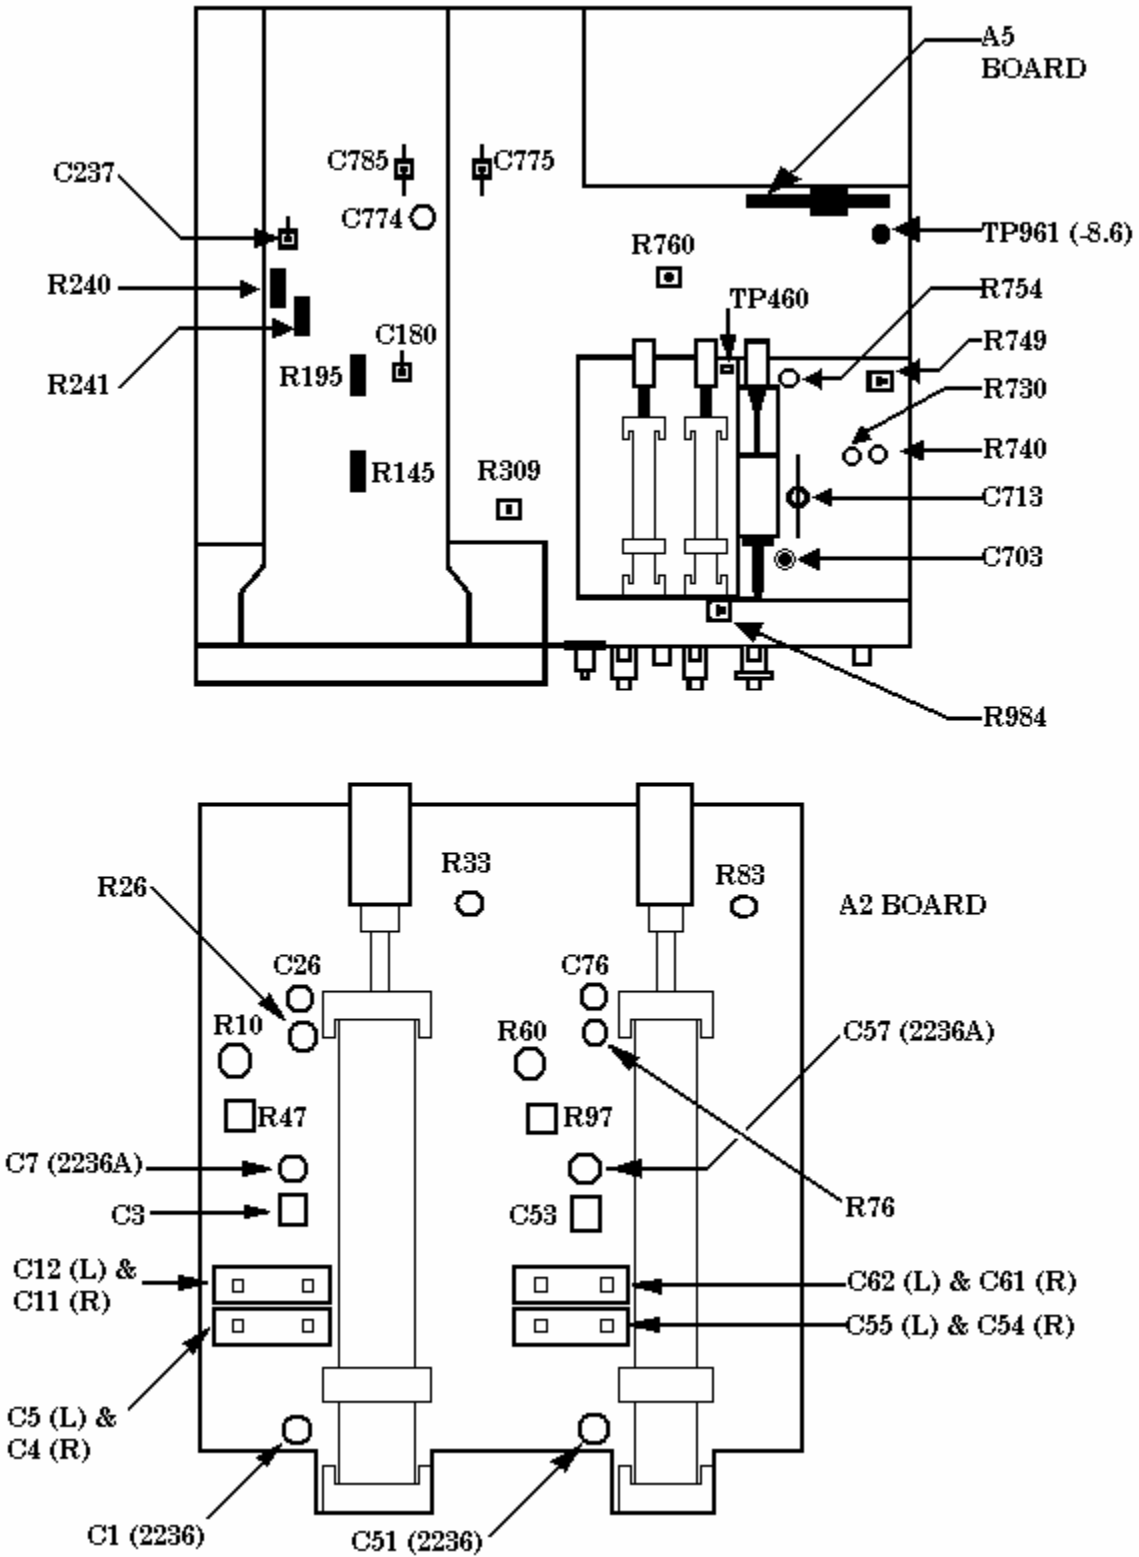

Figure 1. Adjustment locations – top view.
- (1) Disconnect equipment setup.
- (2) Set **CH 1 AC GND DC** switch to **AC**.
- (3) Set **CH 1 VOLTS/DIV** switch to **50m**.
- (4) Adjust **CH 1 \updownarrow POSITION** control to position trace on center horizontal graticule line.
- (5) Set **CH 1 VOLTS/DIV** switch to **5m**.
- (6) Adjust R10 (fig. 1) to position trace on center horizontal graticule line.
- (7) Repeat (3) through (6) above for minimum trace shift when setting **CH 1 VOLTS/DIV** from **50m** to **5m**.
- (8) Adjust **CH 1 \updownarrow POSITION** control to position trace on center horizontal graticule line.
- (9) Set **CH 1 VOLTS/DIV** switch to **2m**.
- (10) Adjust R33 (fig. 1) to position trace on center horizontal graticule line.
- (11) Set **CH 1 VOLTS/DIV** switch to **5m**.
- (12) Repeat (8) through (11) above for minimum trace shift when setting **CH 1 VOLTS/DIV** from **5m** to **2m**.
- (13) Connect oscilloscope calibrator CHAN 1 to TI CH 1 using a 50 Ω feedthrough termination.
- (14) Position TI switches as listed in (a) through (c) below:
- (15) Set oscilloscope calibrator for an **EDGE** mode output of 10 kHz and adjust for 5 divisions of vertical deflection on TI.
- (16) Adjust TI **CH 1** **POSITION** control to position top of waveform to center horizontal graticule line.
- (17) Adjust C3 (fig. 1) and R47 (fig. 1) best square corner and flat top.
- (18) Remove 50 Ω feedthrough termination and connect oscilloscope calibrator **CHAN 1** to TI **CH 1**.
- (19) Set oscilloscope calibrator for a **VOLT** mode output of 10 mV at 1 kHz.
- (20) Position TI controls as listed in (a) through (c) below:
- (21) Adjust R26 (fig. 1) for 5 divisions of TI vertical deflection (R).
- (22) Set TI **CH 1 VOLTS/DIV** switch to **10m**.
- (23) Set oscilloscope calibrator for a 50 mV output.
- (24) Adjust R145 (fig. 1) for 5 divisions of vertical deflection on TI (R).
- (25) Connect oscilloscope calibrator **CHAN 1** to TI **CH 1** using a 5-80 pF standardizer.
- (26) Set oscilloscope calibrator for an **EDGE** mode output of 1 kHz and adjust for 5 divisions of vertical deflection on TI.
- (27) Adjust 5-80 pF standardizer for optimum square wave.
- (28) Adjust C7 (2236A) (fig. 1) or C1 (2236) (fig. 1) for best flat top.
- (29) Set TI **CH 1 VOLTS/DIV** switch to **.1**.
- (30) Replace 5-80 pF standardizer with 50 Ω feedthrough termination.